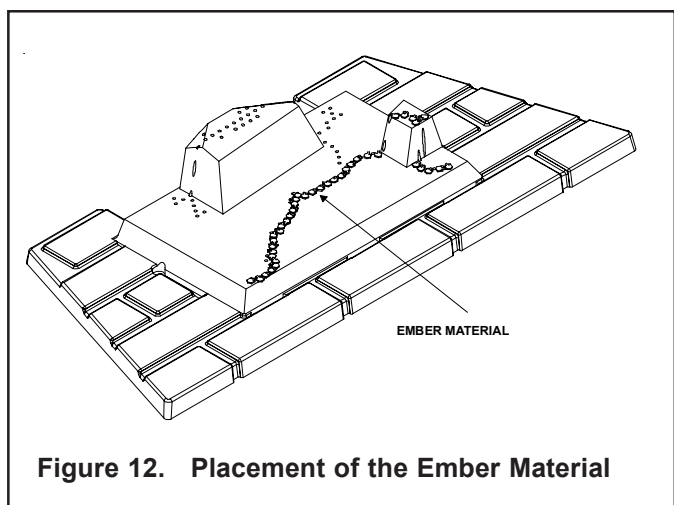

Figure 12. Placement of the Ember Material
- When placing Glowing embers onto the burner care should be taken so that the ports are not covered. Place the embers along side the port trail, but not on or in between the ports. Failure to follow this procedure will likely cause lighting and sooting problems (see Figure 12).